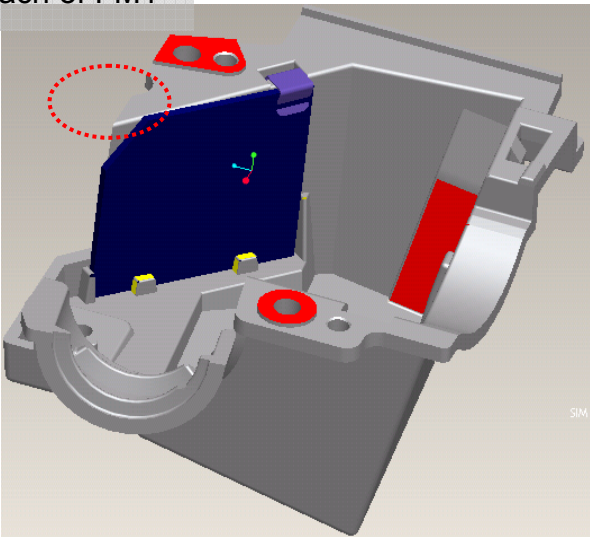

Fig. 6-1
- I. FM1 must be placed on datum surfaces well and breach of FM1 must be face to inside (Fig. 6-1)